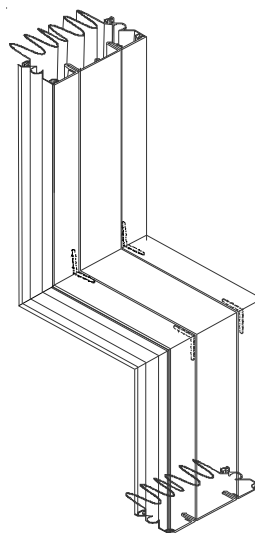

Figure 14
STEP 4. Select splice pins for the seal (one pin per splice slot in the face seal). Insert each splice pin half way into its corresponding splice slot in the face seal. Align the mating seal sections with one another. Insert the other half of the splice pin into the splice slots in the mating section of the face seal. Press the mating sections of the face seal together, compressing the caulk and providing a seal at the transition, see Figure 14.